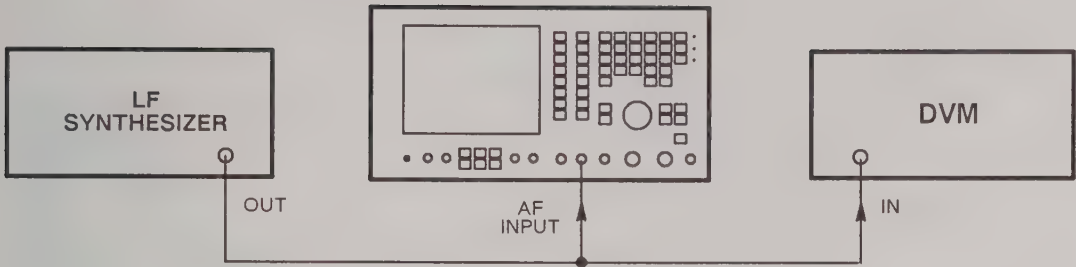

Fig. 6-8 Test equipment connections for voltmeter frequency response
- (1) Connect the LF generator and the DVM to the AF INPUT socket. See Fig. 6-8.
- (2) On the 2955A, set the MODE to AUDIO TEST, AC DC to AC, FILTER to 50 kHz LOW PASS and DIST'N to off.
- (3) Set the synthesized LF generator to give a 1 kHz sinewave at 1 V RMS into 50 Ω .
- (4) Set the DVM to AC, RMS.
- (5) Check that the AF voltmeter reading is the same as the DVM reading $\pm 3\%$ ± 3 mV ± 1 digit.
- (6) Repeat (3) and (5) at other frequencies between 50 Hz and 20 kHz.